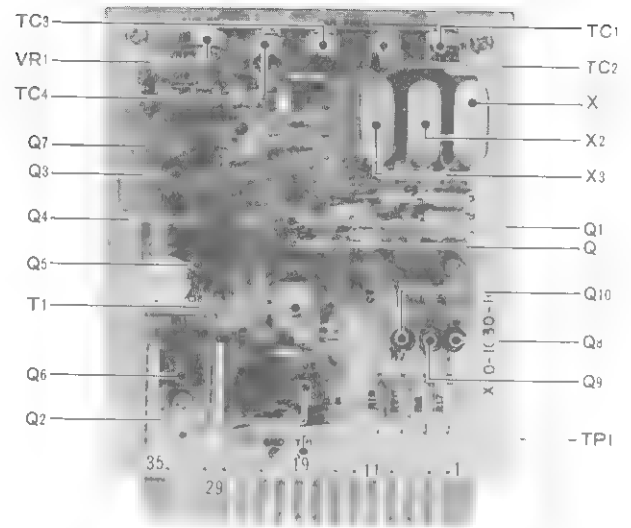

FIGURE 14. CAR-AVR Board
5.3 CAR-AVR (Carrier/Automatic Voltage Regulator) BOARD (X50-1030-10) (See Figure 14)
AVR (See figure 14)